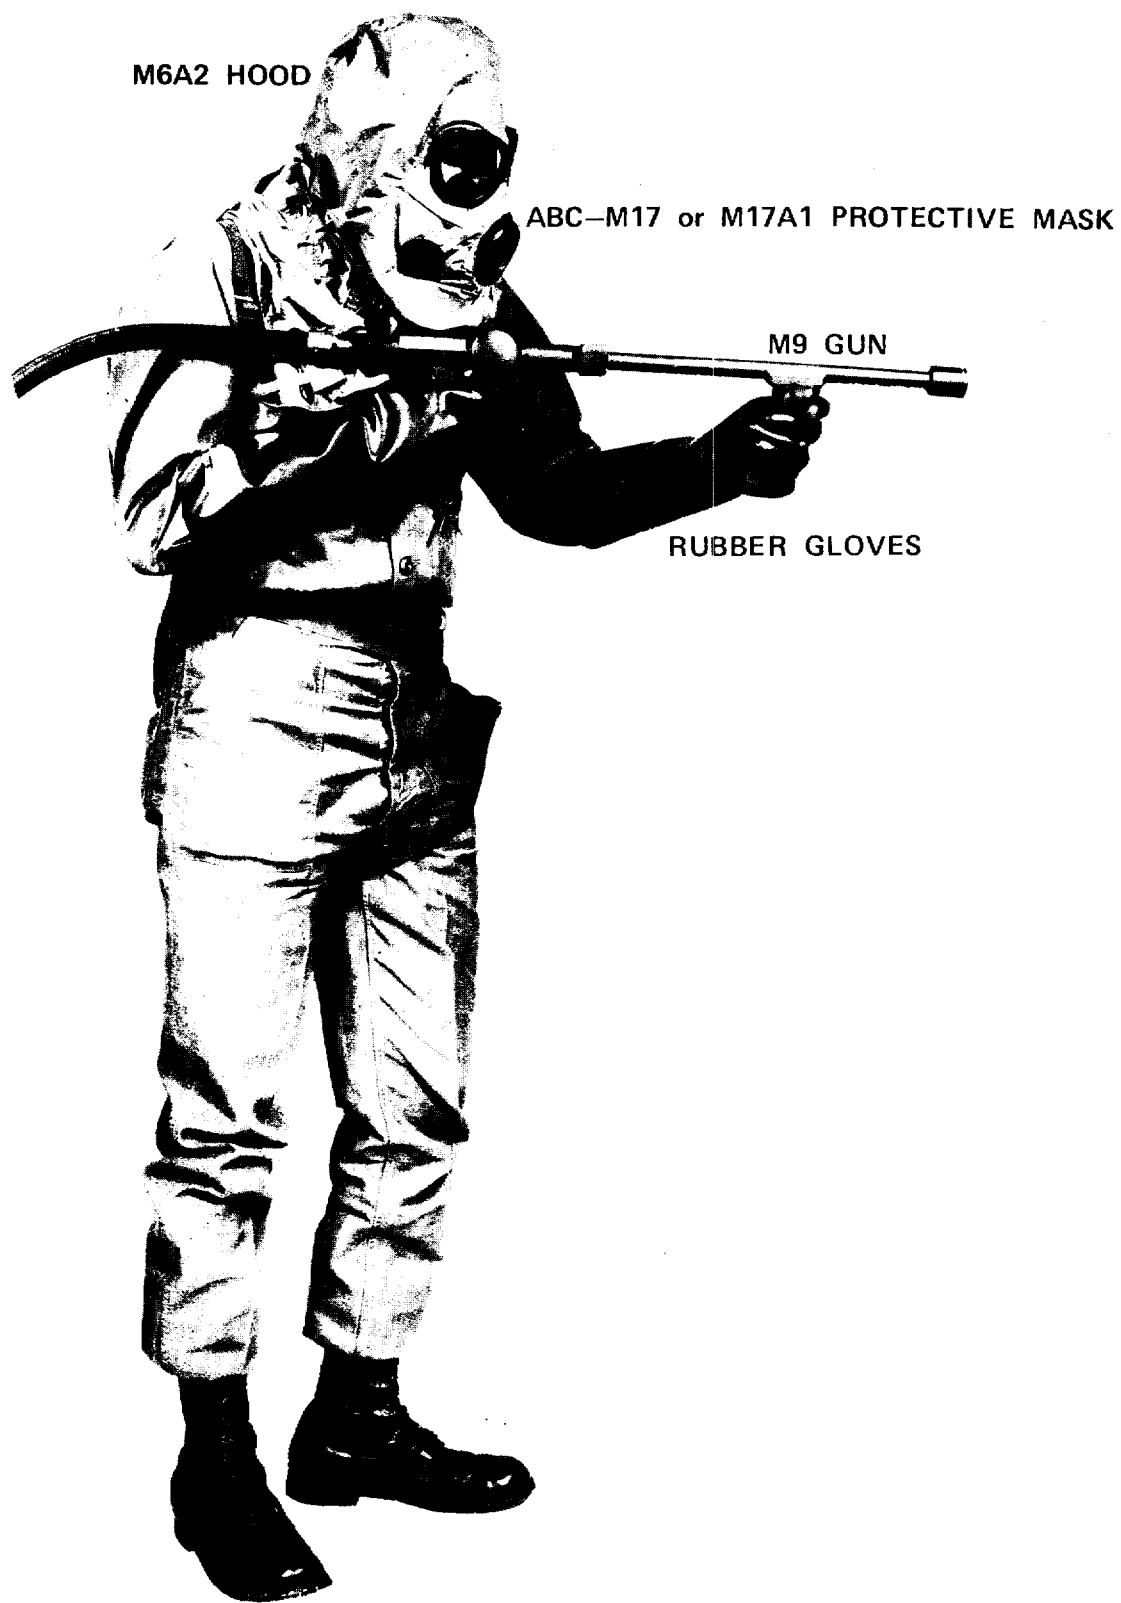

Figure 1-5. Individual protective equipment.
Rubber gloves and a protective mask such as the M17 with attached M6A2 mask hood as shown in figure 1-5 shall be worn by the operator during the entire mission.
a. **Protective Clothing and Equipment.** Ordinary field clothing with buttoned collars and cuffs and trouser legs tucked into boots will suffice for protecting the body against the effects of CS. Personnel who handle or disperse agents must wear rubber gloves, a protective mask, and hood (fig. 1-5). Personnel who handle or disperse agent will insure that the mask hood and protective mask fit together as CS on the face and neck can cause annoying irritation, especially on skin wet with perspiration.
(1) Before starting mission in the helicopter, check that the exterior surfaces of the disperser are free of any possible spilled agent and that the disperser surfaces are dry.
(2) After organizational maintenance personnel have mounted the disperser in the helicopter, the operator must check that the following before operation services were performed: